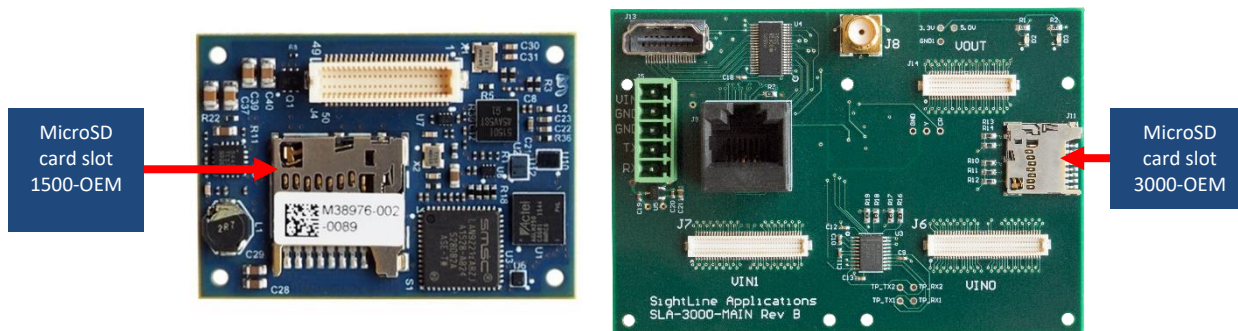

Figure A1: 1500 and 3000 Board MicroSD Card Slots
15. Make sure the OEM board is powered off. Insert the microSD card in the microSD slot on the appropriate board as shown in **Figure A1**.